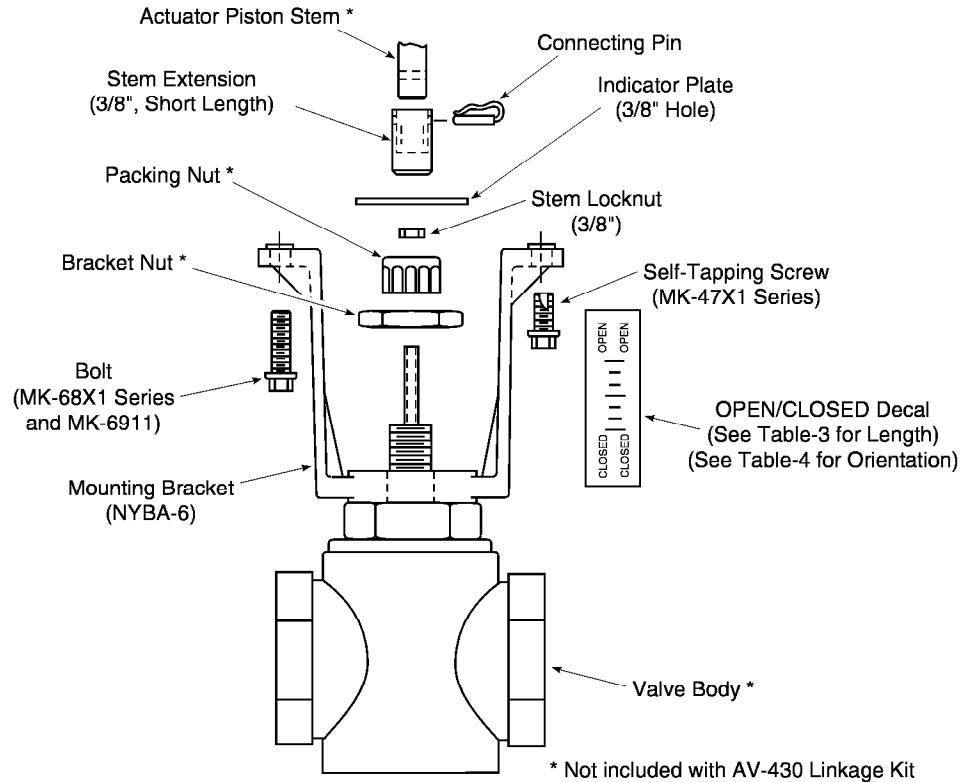

Figure-9 Assembly of MK-47X1, MK-68X1, and MK-6911 Series Actuators with VB-202, -212, -252, -304, -804, -817, and VB-9323 (2-1/2" to 6") Series Valve Bodies.
- b. Position the mounting bracket onto the valve body. See Figure-9.